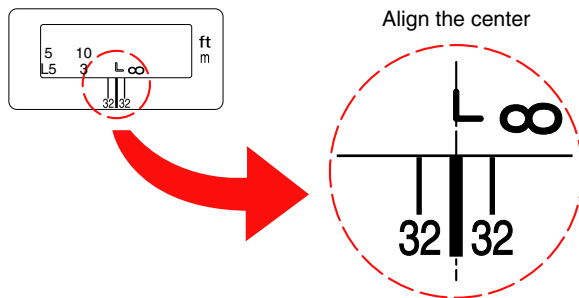

Fig. 4-4-6
- 2) Turn the focus scale plate of the checking lens and align the infinity index of the distance scale to the focus index of the focus scale window as shown in the Fig.4-4-6.